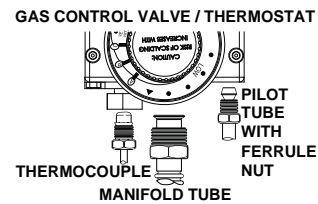

FIGURE 36.
Inspect the burner flames through the viewport and compare them to the drawing in Figure 36. A properly operating burner should produce a soft blue flame. Blue tips with yellow inner cones are satisfactory. The tips of the flame may have a slight yellow tint. The flame should not be all yellow or have a sharp blue-orange color. Contaminated air may cause an orange colored flame. Contact a qualified technician if the flame is not satisfactory.
5. Disconnect the following from the gas control valve/thermostat: pilot tube (7/16" SAE wrench), igniter wire (from the igniter lead wire), and manifold tube (3/4" SAE wrench). See Figure 36.
4. Disconnect the igniter wire from the igniter lead wire. Use needle nose pliers to disconnect the red (+) and white (-) thermocouple wires. Disconnect the pilot tube (7/16” SAE wrench) and manifold tube (3/4” SAE wrench) at the gas control valve/thermostat. See Figure 36.